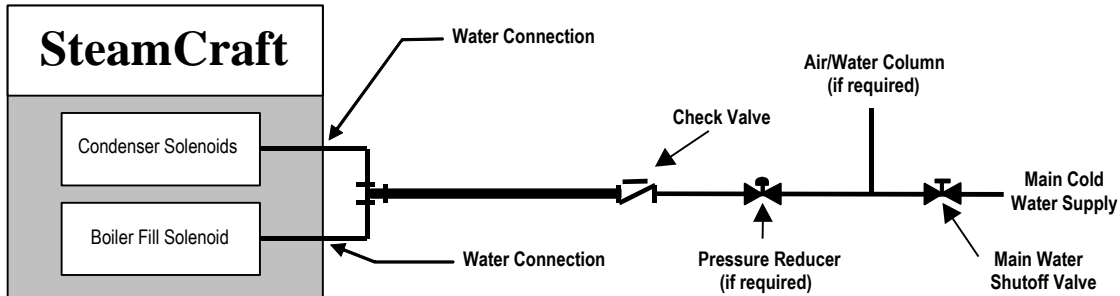

Figure 3-3 Cleveland Range Single Water Supply Arrangement
- b. If the static pressure is above 60 psi, a pressure regulator must be used and set at approximately 50 psi. Pressure above 60 psi can damage solenoid valves. See Figures 3-3 and 3-4.
- c. If the supply water meets the requirements shown in the Warranty, then the Single Water Supply Arrangement shown in Figure 3-3 may be used.